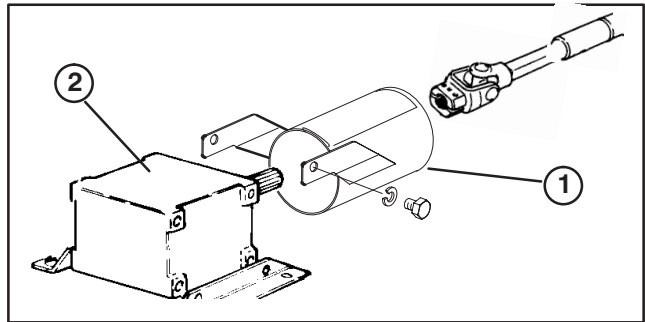

Figure 6
CONNECT PTO SHAFT TO CUTTING UNIT GEAR BOX (Fig. 6–7)
1. Remove (2) capscrews and lockwashers securing PTO guard mounting brackets to gearbox. Retain fasteners for re-installation.
2. Slide PTO shaft guard onto PTO shaft, positioning guard as shown in figure 6.